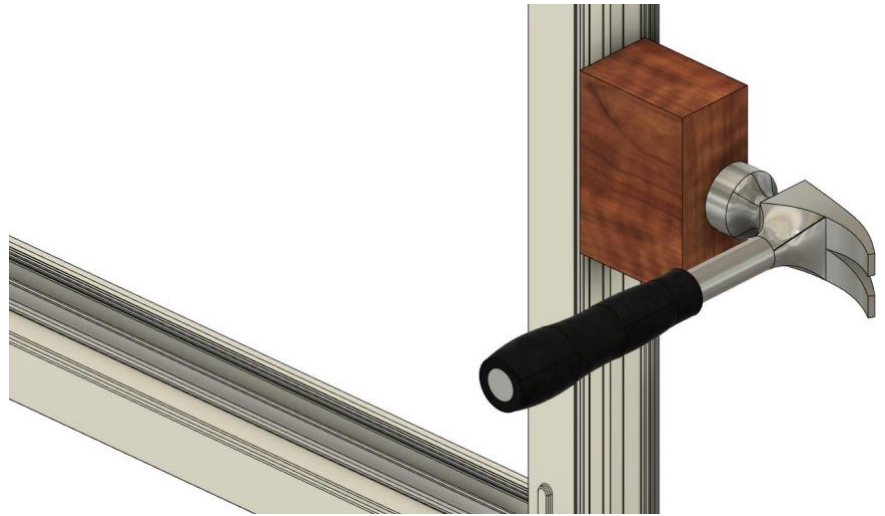

Figure 21
2. Inspect glazed units for bowing. If bowing is found it can be removed with a block of wood and a hammer (Figure 21). (Bowling is typically caused by lifting by or setting on an unsuitable location of the frame).
3. Once the sill is level, add additional shims under each mullion (Figure 21), under each jamb, at any coupling (Figure 22), or as needed for additional support for very large windows and doors. Ensure the sill is not bowed either up or down.
Ensure there is no bowing in either plane. Unglazed frames can have bowing removed by adding shims or adjusting anchor straps. Glazed frames can have the bowing removed as described under "Inspection" (Figure 21).